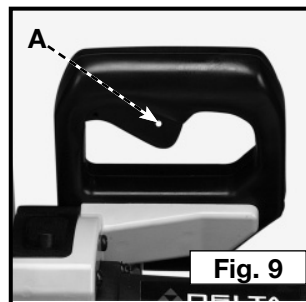

Fig. 9
To start the machine, depress switch trigger (A) Fig. 9. To stop the machine, release the switch trigger.
This saw is equipped with an automatic electric blade brake. As soon as the switch trigger (A) Fig. 9 is released, the electric brake is activated and stops the blade.
▲WARNING A turning saw blade can be dangerous. After completing the cut, release the switch trigger (A) Fig. 9 to activate blade brake. Keep cuttinghead down until the blade has come to a complete stop.